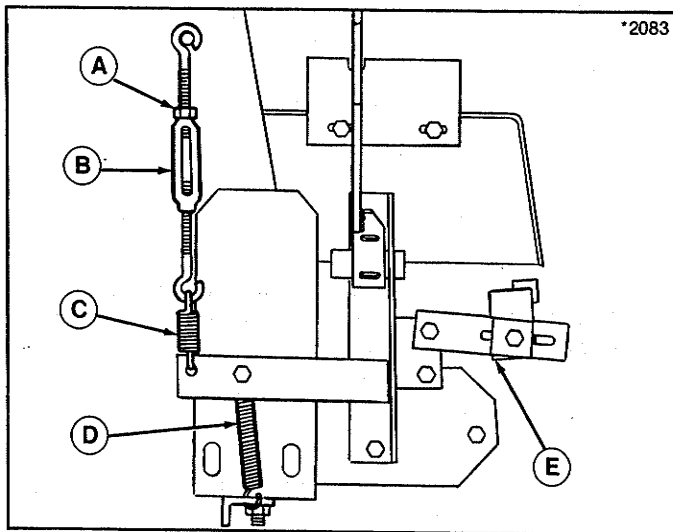

Figure 22.
5. Loosen nut (A, figure 22) on top of turnbuckle (B) and adjust turnbuckle up or down.